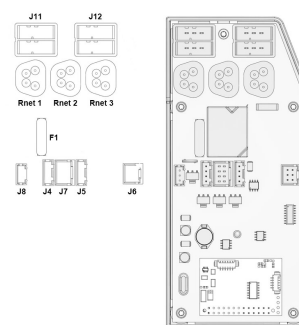

Figure 402. ICS Master Module.
2. Reconnect the actuator to the connectors J11 or J12 on the ICS Master Module. See fig. 402.